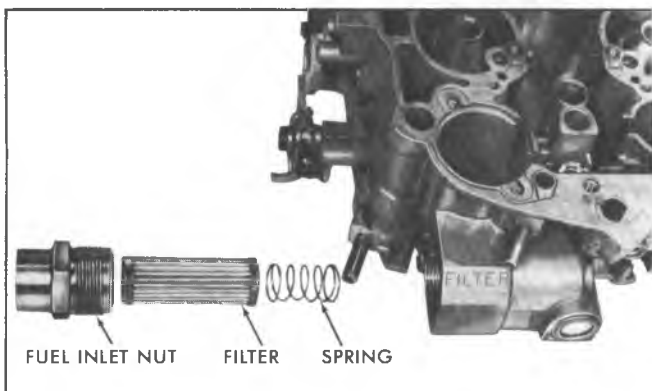

Fig. 17MQ-Fuel Filter
1. Remove fuel inlet nut, gasket and filter (Fig. 17MQ).
4. Install fuel inlet filter spring, filter, new gasket and inlet nut and tighten nut to 18 pounds feet (Fig. 17MQ).